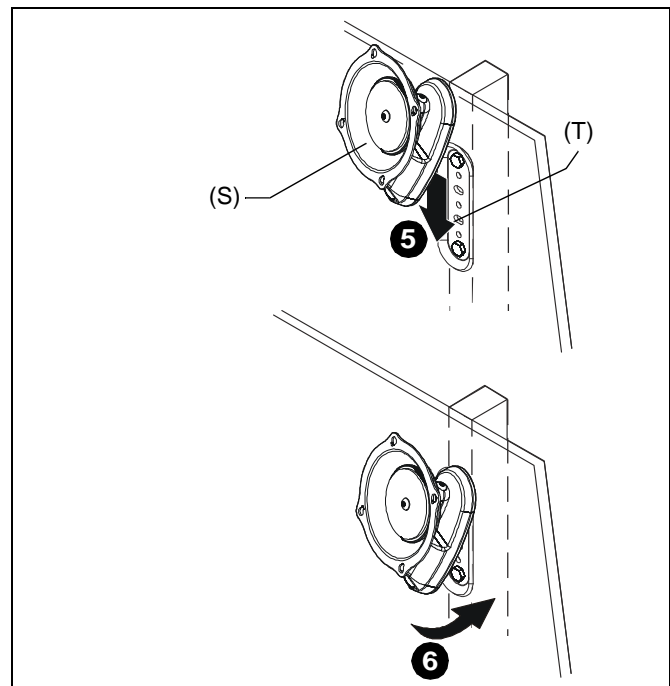

Figure 2
5. Insert top of wall mount (S) over lip on top of wall plate (T). (See Figure 2)